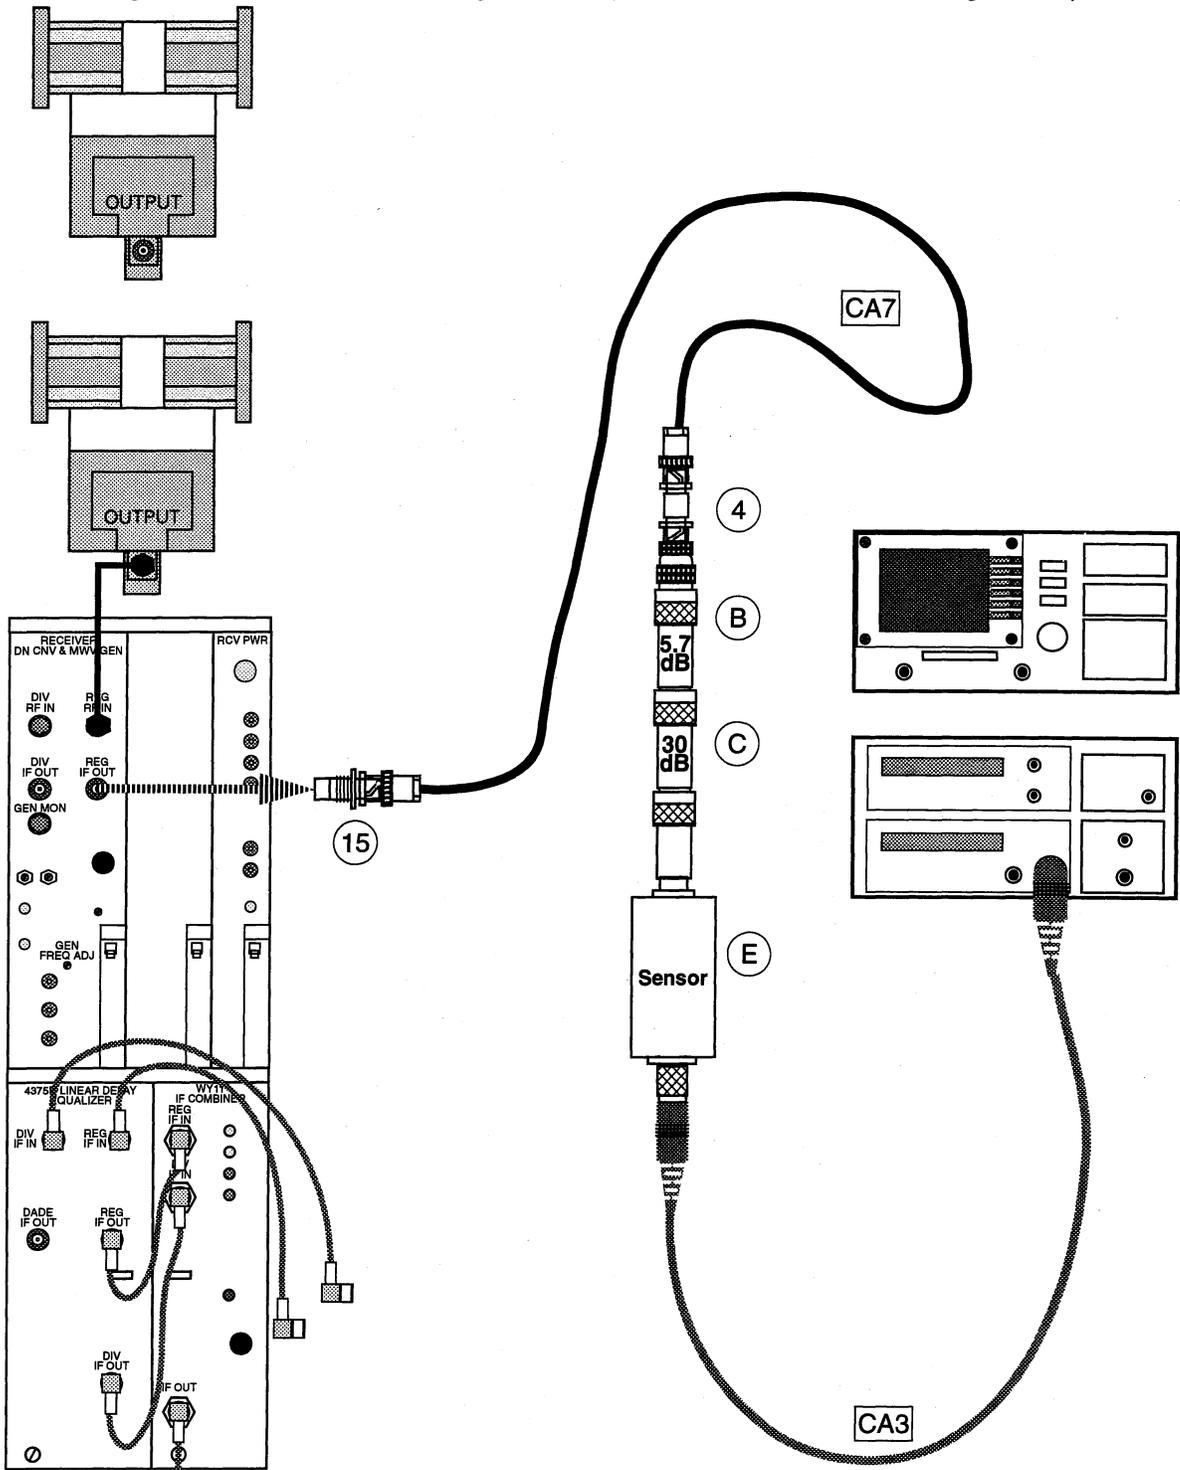

Figure 17. Down-Converter Gain (4400 Series, ANT DIV)
- 3 Connect the test equipment as shown in Figure 17.